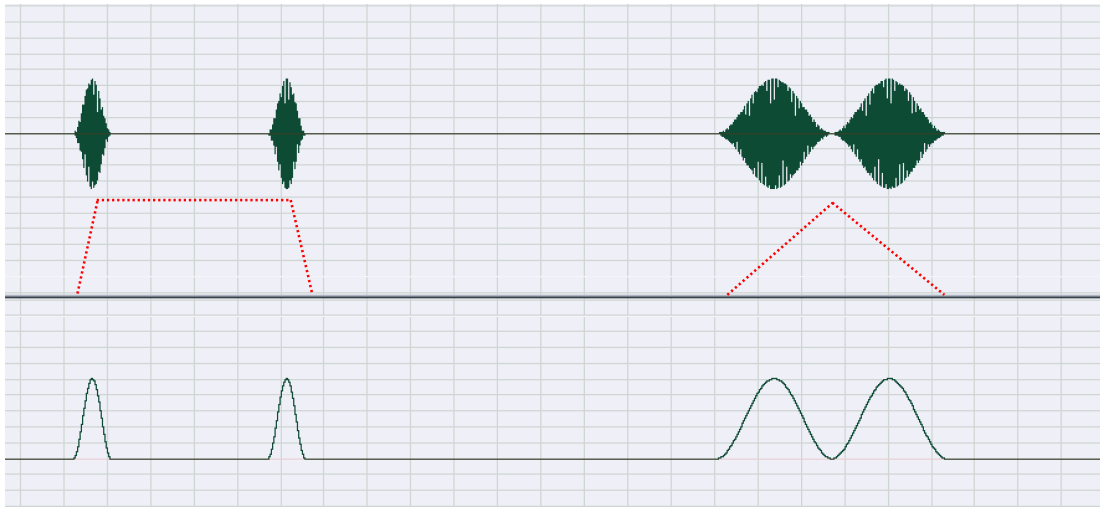

Figure 8 –Twin Pulse type grain envelope
*Twin Pulse* : with this choice, the envelope shape will be that relative to a pair of Gaussian pulses as shown in Figure 8. As can be seen from this figure, the duration of the rise time influence the degree of temporal proximity of the two Gaussian pulses.